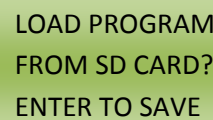

Figure 14.3
- a. Backed up data that is stored on the SD Card can be loaded onto the Time-Keeper® if something were to happen. To Load from the SD Card, press ENTER on the keypad. See Figure 14.3 for an example.